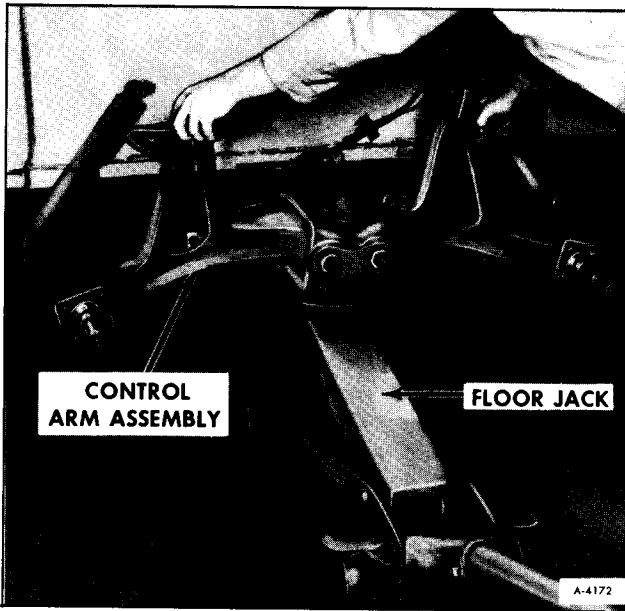

Figure 21—Lowering Control Arm Assembly from Vehicle
11. Lower rear suspension unit to floor as shown in Figure 21.